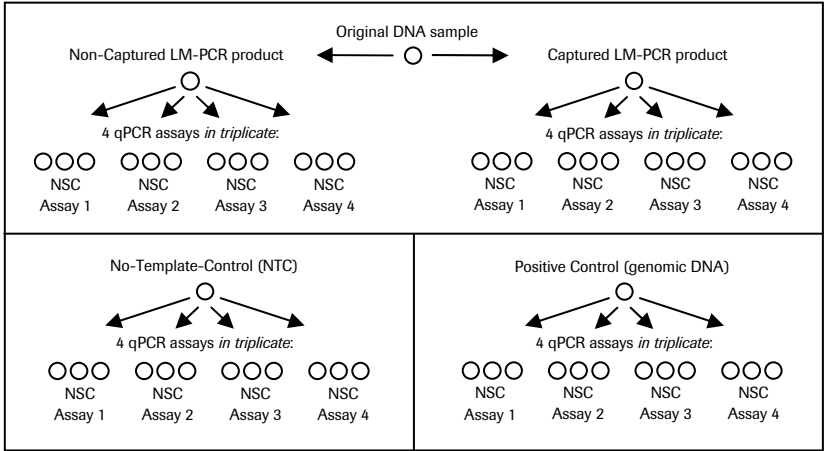

Figure 17: qPCR Experimental Overview
***Note:** A “DNA sample” in this chapter is defined as one non-captured LM-PCR product (Chapter 6) and the matching captured LM-PCR product (Chapter 10). Assuming a standard set of 4 NimbleGen Sequence Capture (NSC) control locus qPCR assays will be used and qPCR assays will be performed in triplicate, each captured DNA sample will require 24 individual qPCR reactions for analysis. One no-template-control (NTC) should always be included to monitor for contamination in qPCR assay primers, other qPCR reagents, and the entire PCR process. One positive control template, ideally consisting of the original genomic DNA starting material, should always be included to verify assay function. The NTC and positive controls will each require 12 additional qPCR reactions (refer to Figure 17).*